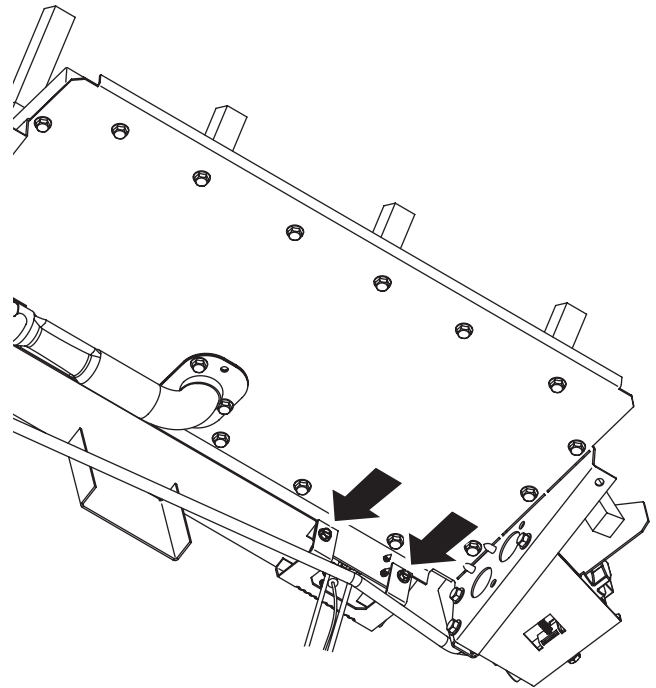

Figure 3
5. Using a 1/4" nut driver, remove the Ignitor Bracket to gain access to the Pilot Tube. **See Figure 3.**